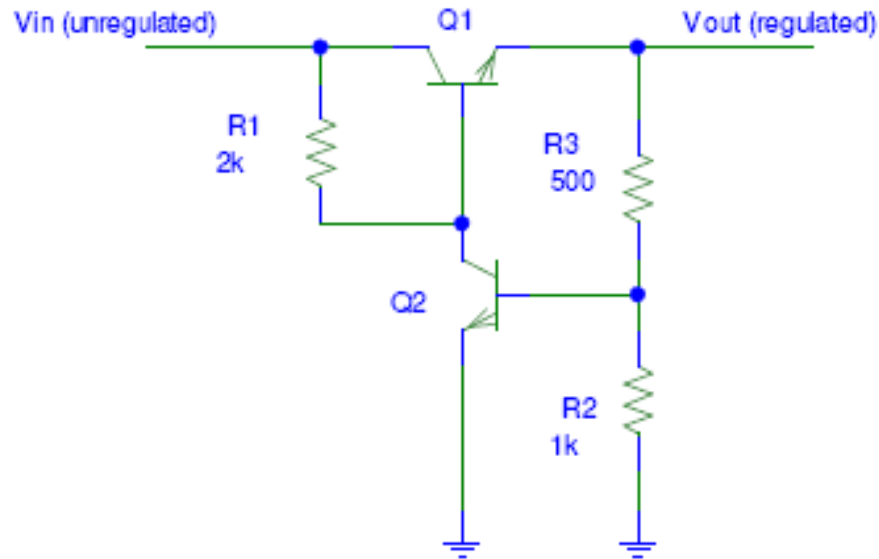

Figure 11: A two-transistor voltage regulator
1. Write out an explanation for the operation of the voltage regulator circuit in Figure 11.
1. Review section 7.6.3 (5th Ed.: 14.7.2) of your textbook for the operation and advantages of a Darlington pair configuration. Sketch a schematic of the voltage regulator circuit, which has been modified with a Darlington pair in place of Q1 in Figure 11.
In this part, you will build a very simple two-transistor voltage regulator that uses negative feedback to control output voltage. **Negative feedback** is a type of feedback, where the system responds in an opposite direction to the perturbation. In this case, if the output voltage begins to rise, the system acts to decrease it, and vice versa. Feedback consists of a “sampling” of the output, which in turn is fed back to an earlier part of the circuit. You are not expected to know how to design this circuit: so, a schematic will be provided, which is Figure11 on the next page. Use 2N4401 transistors for Q1 and Q2.
Build the voltage regulator, as shown in Figure 11, on your solder-less breadboard. Measure output voltage with no load and with a 1mA, 10mA, 100mA, and 200mA load. Circuit characteristics can change over time: so, hold each current for one minute and measure the voltage again, before you proceed to the next current setting.
Using a 2N4401 transistor for Q1 limits your voltage regulator, (and you should have determined this already). Replace Q1 with a TIP29C transistor. Why does this transistor work better than a 2N4401 in this situation? If you are not sure of the difference, rebuild the circuit in Figure 11, (but using a TIP29C for Q1 this time).